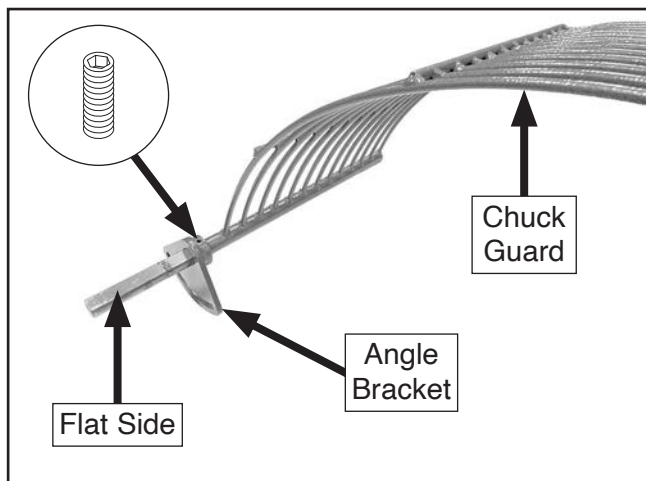

Figure 21. Angle bracket installed on chuck guard.
6. Install angle bracket on chuck guard and tighten set screw against flat side of chuck guard stem to secure (see **Figure 21**).